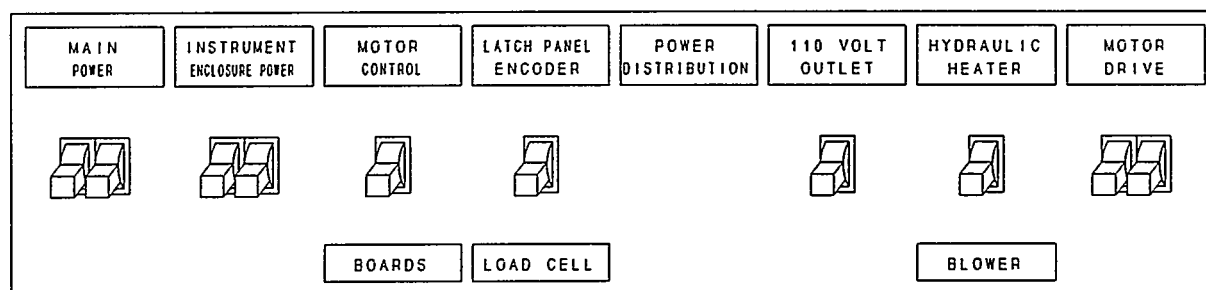
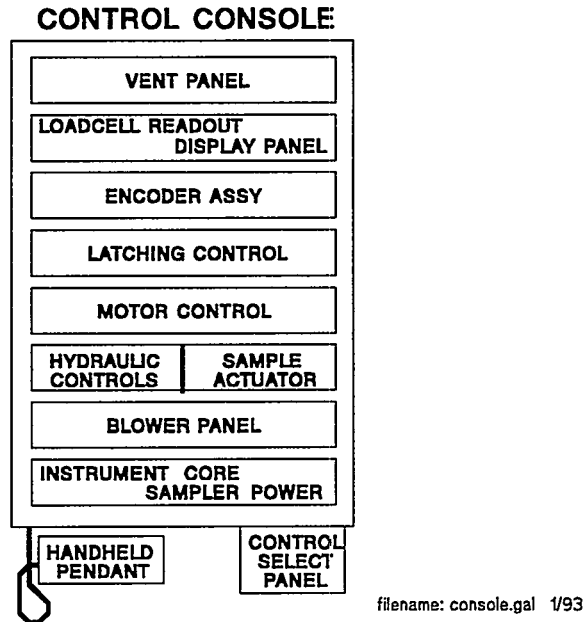

Figure 3) Instrument Core Sampler Power
Figure 4) Control Console Panels.
- OP/CE ____/____ 7.2.12 **ACTIVATE** all breakers on the INSTRUMENT CORE SAMPLER POWER panel, (see Figure 3 and Figure 4 below), of the control console.